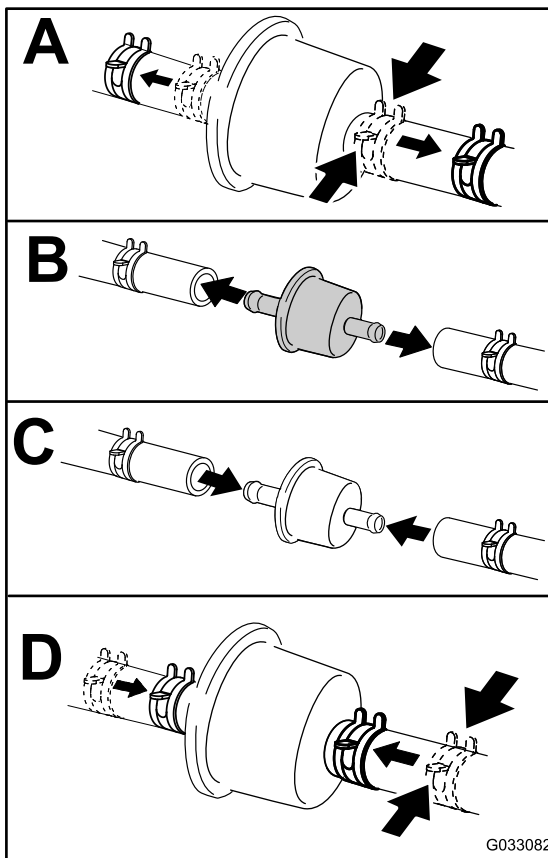

Figure 52
4. Replace the fuel filter (Figure 52).